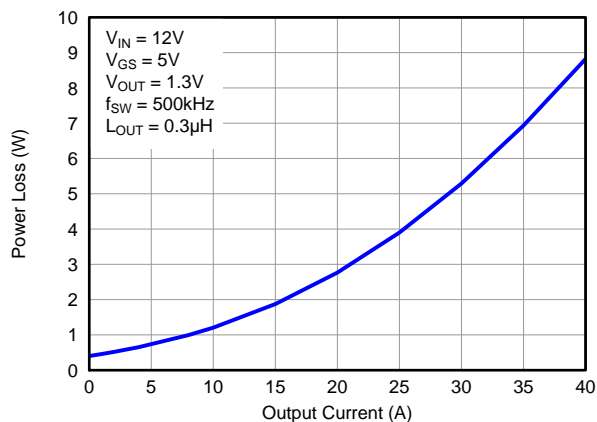
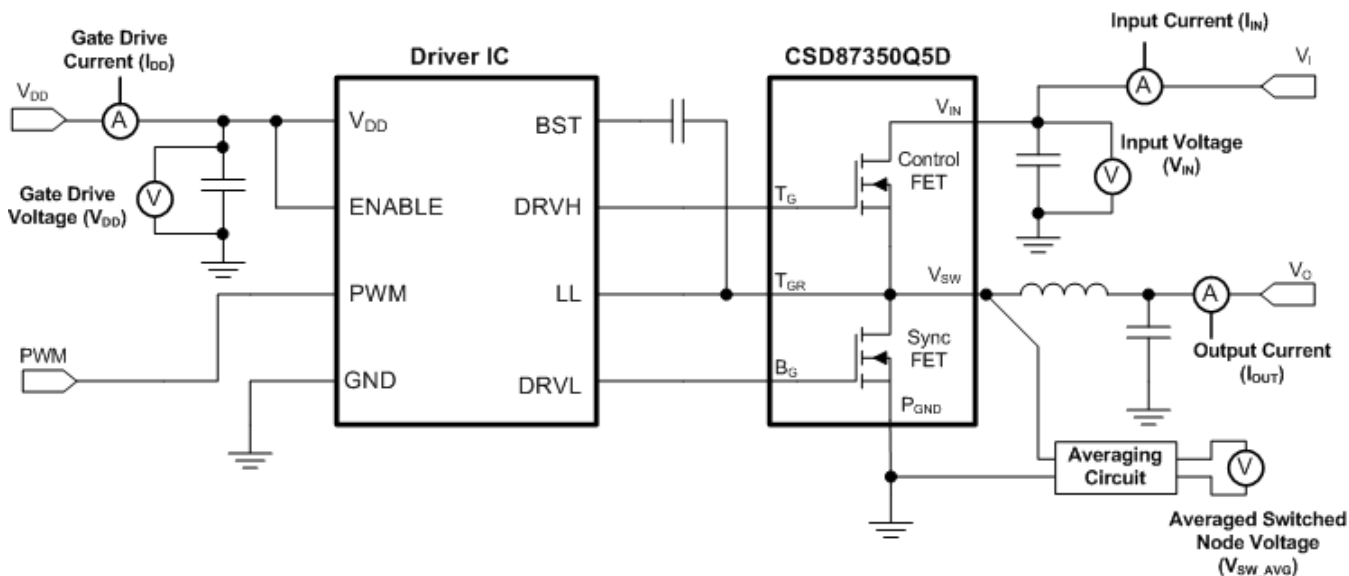

Figure 1. Power Loss vs Output Current
Figure 28. Typical Application
MOSFET centric parameters such as $R_{DS(ON)}$ and Q_{gd} are needed to estimate the loss generated by the devices. In an effort to simplify the design process for engineers, Texas Instruments has provided measured power loss performance curves. Figure 1 plots the power loss of the CSD87350Q5D as a function of load current. This curve is measured by configuring and running the CSD87350Q5D as it would be in the final application (see Figure 28). The measured power loss is the CSD87350Q5D loss and consists of both input conversion loss and gate drive loss. Equation 1 is used to generate the power loss curve.
The power loss curve in Figure 1 is measured at the maximum recommended junction temperatures of 125°C under isothermal test conditions.
- Power Loss at 25A = 3.5W (Figure 1)